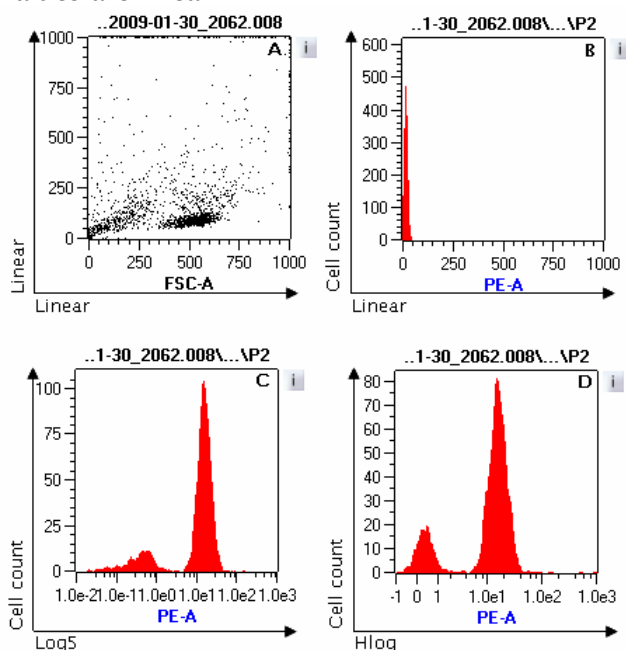

Figure 1.5 Comparing log and linear scales when displaying fluorescence and non-fluorescence events.
Standard dot plots can be displayed in linear, logarithmic, or hyperlog (hlog) scales depending on the type of data being shown. Plots which show side scatter and forward scatter typically use linear scales. This is often not possible when fluorescence labeled and non-fluorescence labeled cell populations are being analyzed as the difference in fluorescence signal intensities can extend over several orders of magnitude. As a consequence, a logarithmic scale must be used to allow visualization of all populations. The impact of selecting an appropriate scale is exemplified by Figure 1.5 below. In this example a sample was analyzed which contained a population of white blood cells labeled with the fluorochrome phycoerythrin (PE). A linear scale was used to display a dot plot of forward scatter vs. side scatter (A) and to display a histogram of PE fluorescence intensity versus cell count (B). In B, the signal intensities of non-fluorescence cells and fluorescence labeled cells are “squeezed together”. To separate the signals a log5 scale was used (Figure 1.5: C) revealing two peaks: the left peak is attributable to background fluorescence whereas the right peak is due to cells labeled with PE. It is important to note that the same data can look quite different depending on the scale used, however the values of the data points have not been altered. Further, as the MACSQuant Instrument acquires data in a digital format some fluorescence intensities may be assigned a value less than zero. Data values less than zero may not be displayed properly using a conventional logarithmic scale, although all calculated statistics will be correct. This is a general feature of more advanced “digital flow cytometers”. To overcome this, a hlog or biexponential scale may be used (D). In an hlog scale the upper values of the scale are logarithmic whereas the lower values are linear.